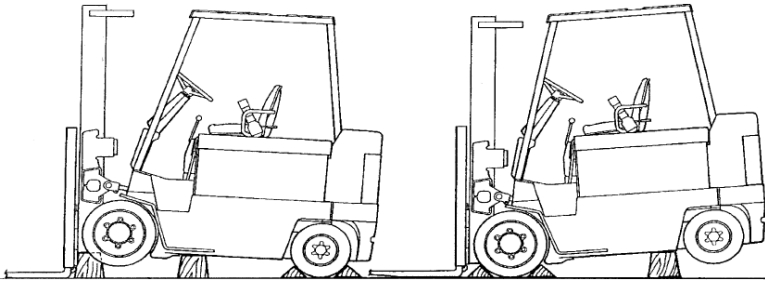

Figure 21. Lift Truck on Blocks
1. Put blocks on each side (front and back) of the steer tires to prevent movement of the lift truck. *See Figure 21.*
See Figure 21.